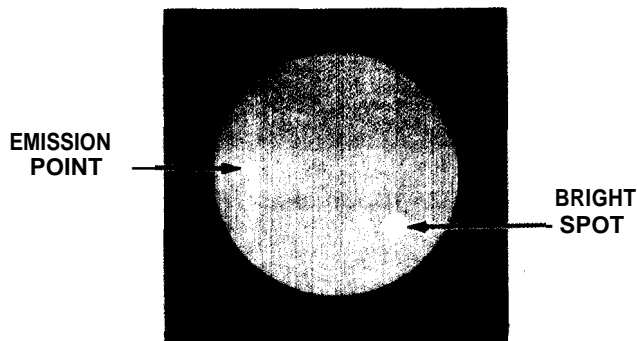

Figure 2-8. Bright Spots and Emission Points.
c. Bright Spots. These are cosmetic defects in the image intensifier. A bright spot is a small, nonuniform, bright area that may flicker or appear constant (Figure 2-8). Not all bright spots make the goggle unacceptable. Cup your hand over the objective lens to block out all light. If the bright spot remains, it is an emission point. Bright spots usually go away when the light is blocked out and are cosmetic defects. Bright spots are acceptable if they do not interfere with the ability to perform the mission. If bright spots do interfere, send the goggle to higher level of maintenance for evaluation.
d. Emission Points. A steady or fluctuating pinpoint of light in the image area that does not go away when all light is blocked from the objective lens (see Figure 2-8). The position of an emission point within the image area does not move. Not all emission points make the goggle unacceptable. Emission points are acceptable if they do not interfere with the ability to perform the mission. If emission points do interfere, send the goggle to higher level of maintenance for further evaluation.